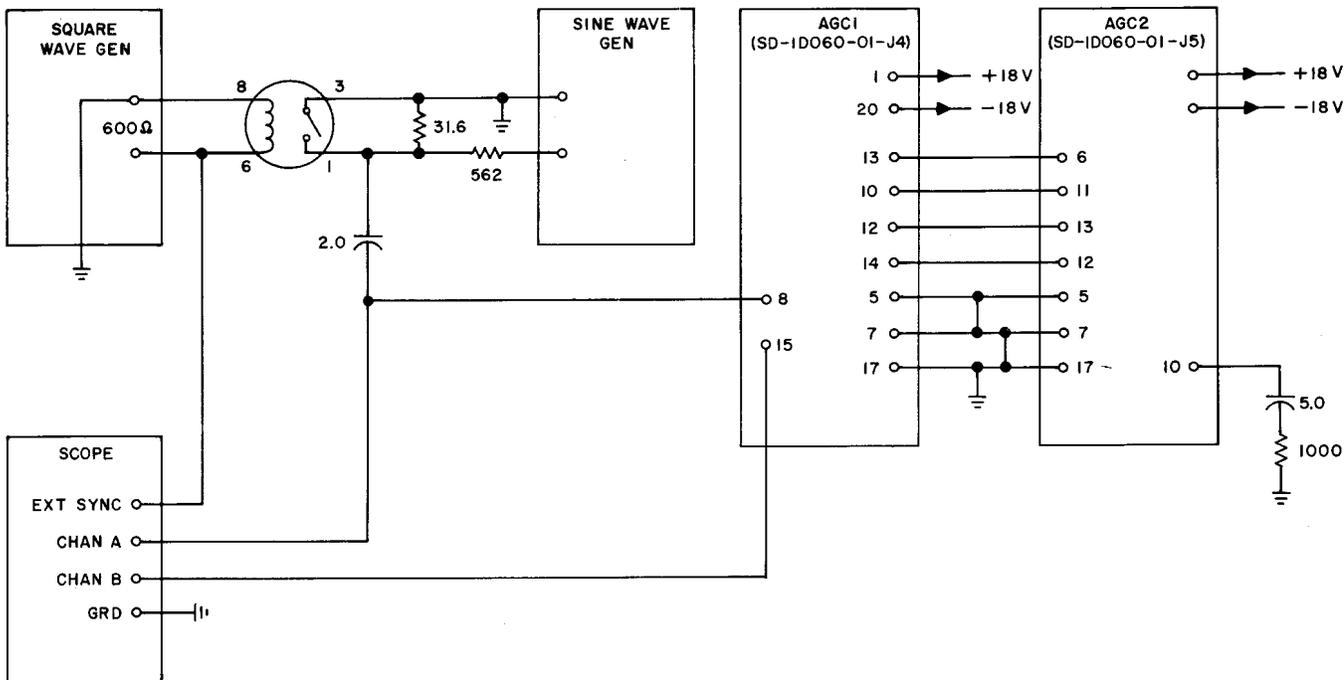

Fig. 21A — Automatic Gain Control 2 Test Circuit
(1) The carrier detector response test of the AGC2 circuit pack is made in conjunction with the AGC1 circuit pack. Connect the circuit packs to the suggested test circuit shown in Fig. 21A. Apply power to both circuit packs as in 4.16A.